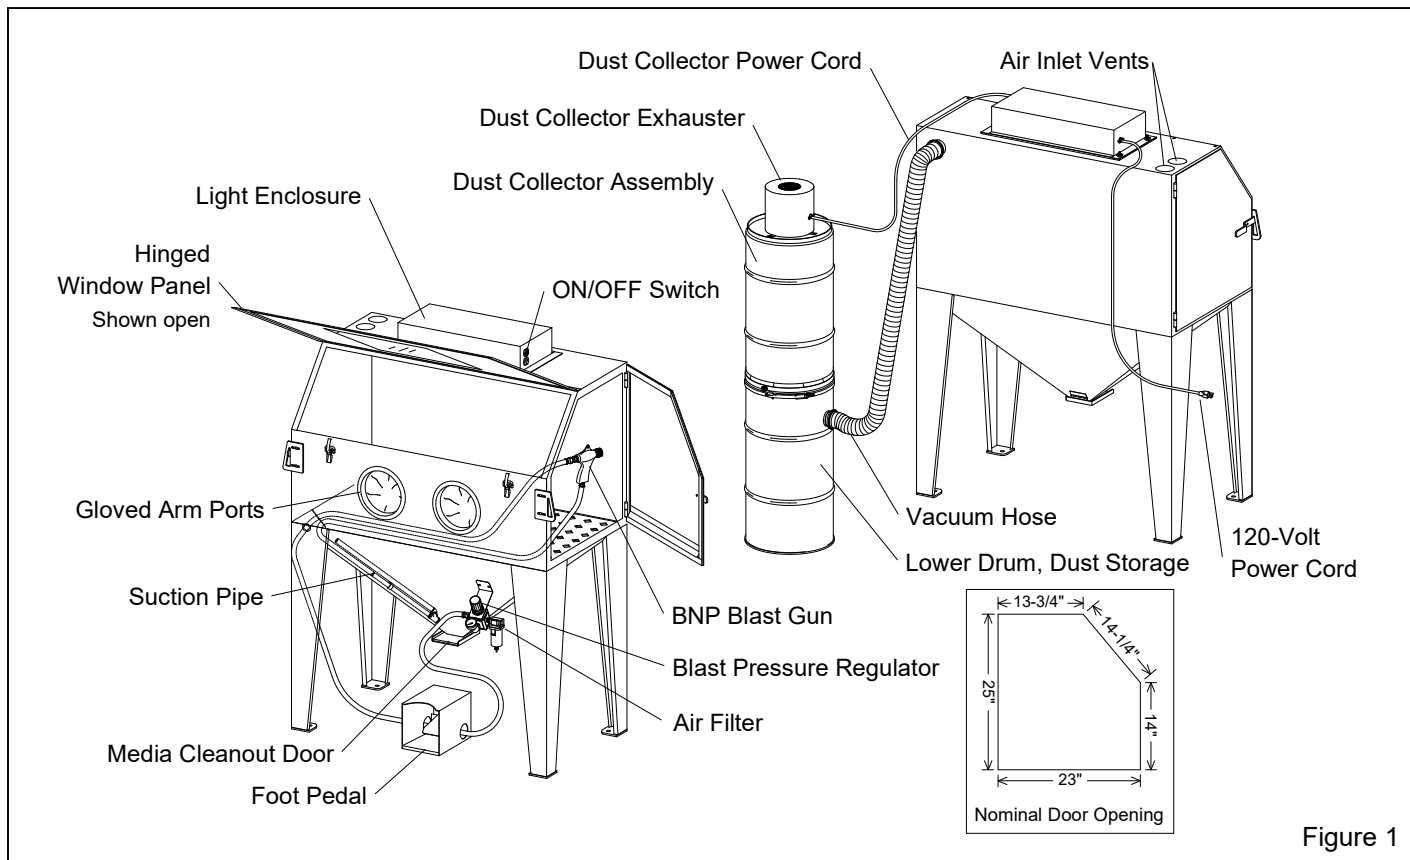
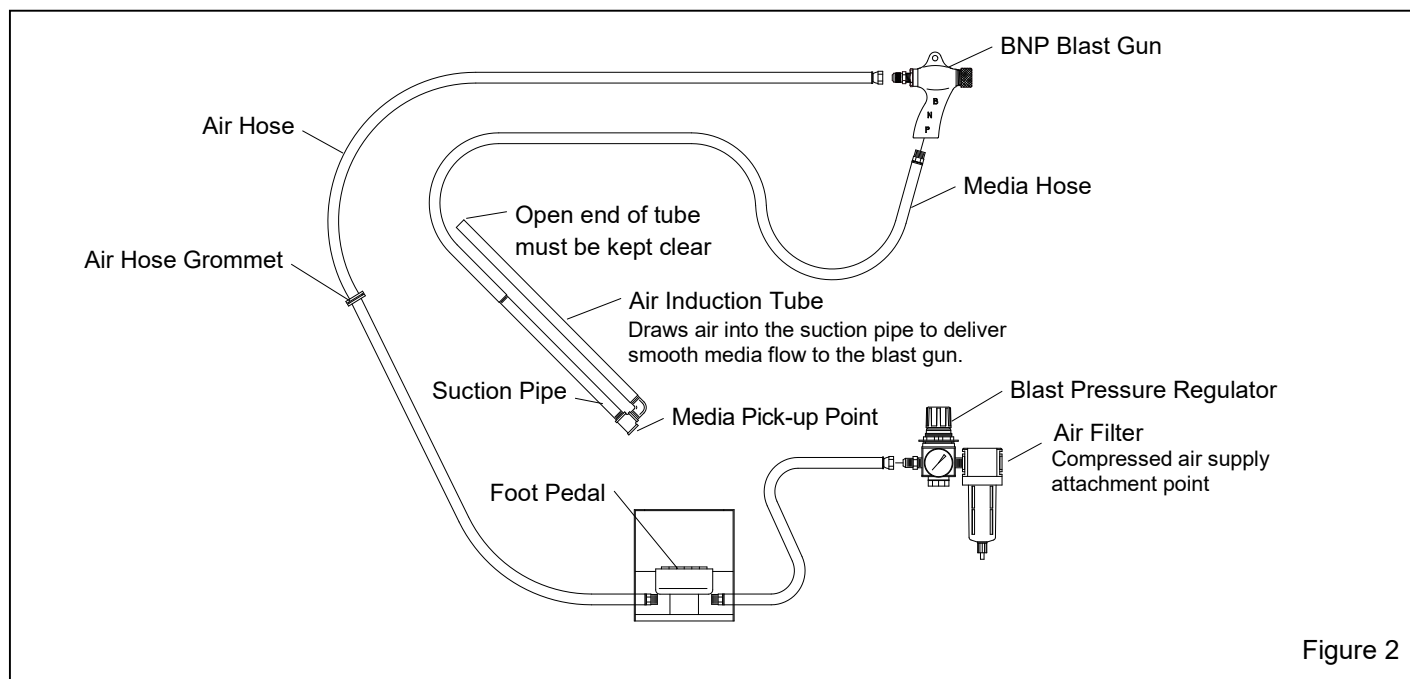

Figure 1
Figure 2
Refer to the insert in Figure 1 for nominal dimensions.
1.3.4 Refer to Figure 1 for the general arrangement of the cabinet and dust collector, and callouts of main components. Refer to Figure 2 for the blast gun and feed assembly layout.
1.5.1 Refer to Figure 2 for the arrangement and components of the blast gun and feed assembly.
2.2.1 Refer to Figure 1 for the general arrangement. Place all components in a convenient location where compressed air and electrical service are available. The cabinet location must comply with OSHA and local safety codes. Allow for full access to all doors and service areas, and for efficient handling of large parts. Place the dust collector behind the cabinet with hose connection toward the cabinet and with as few hose bends as possible. Provide enough clearance around the dust collector to remove the upper drum and empty the lower storage drum.